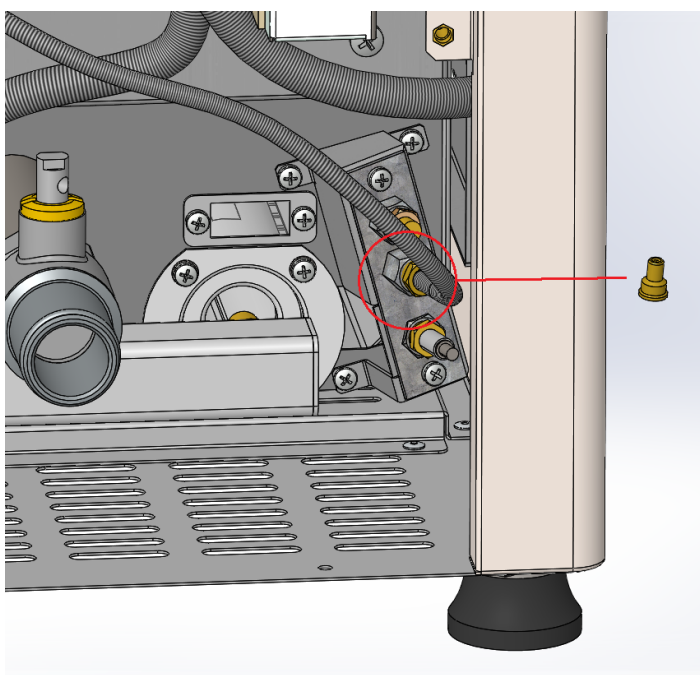

Fig. 2
- 2) Using size 10 wrench, unscrew the pilot torch inlet hose (Fig. 2).